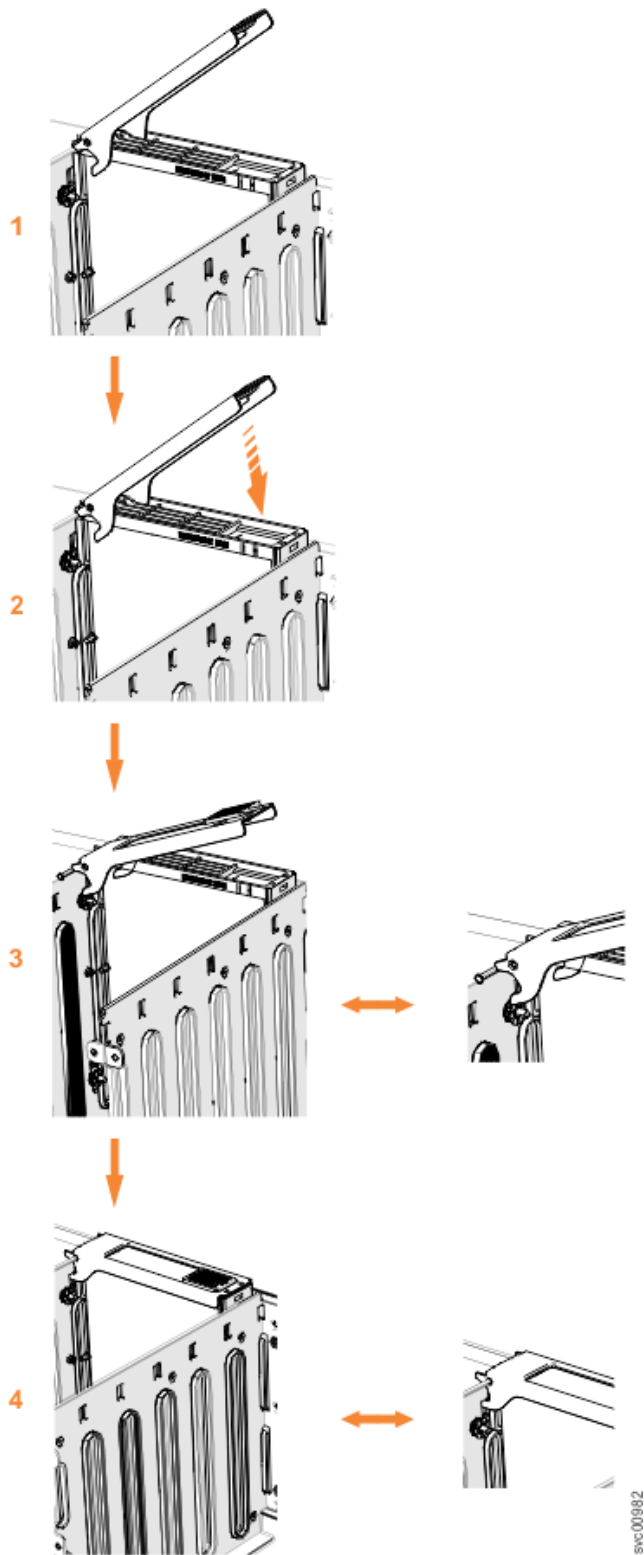

Figure 42. Replace the drive
5. Ensure that the drive handle (❶ in Figure 42 on page 47) of the drive assembly is in the open (unlocked) position.
7. Gently push the drive down until it stops and the bottom of the latch is aligned with the top of the partition. Ensure that the handle is not open more than 45 degrees from the drive carrier. (❷ in Figure 42 on page 47).
8. Rotate the handle down to lock the drive assembly into the chassis (**3** in Figure 42 on page 47).
10. Ensure that the top toe of the latch is also fully engaged (**4** in Figure 42 on page 47).